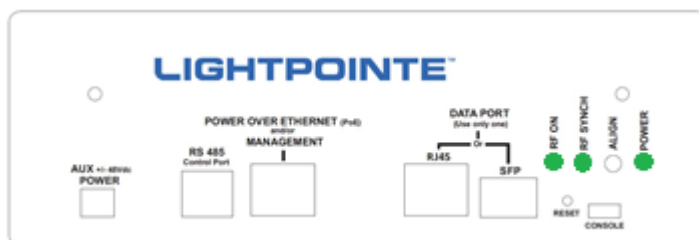

Figure 5-9: Default User Panel status after successful alignment
When aligning a 60 GHz radio with a narrow beam directional antenna pattern, it is important to understand that besides the “antenna main lobe” that contains most of the energy, there are also “antenna side lobes”. A “perfect” antenna would contain all energy in the main lobe but this is physically impossible. Although these side lobes contain far less energy - in the case of a good directional 60 GHz antenna the power of the 1st side lobe is typically more than 20 dB lower when compared to the main lobe’s peak power - one can “see” the 1st side lobe during the alignment process. This is mainly because in a 60 GHz antenna the main lobe and the 1st antenna side lobe are separated by an angle of just 2-3 degrees. This small value for the angular separation is actually close to the radiation angle of the main lobe itself. When installing a millimeter wave radio transmission system it is important to keep in mind that the antenna main lobe and the 1st antenna side lobe point in virtually the same direction. Aligning the system on a side lobe instead of aligning it on the main lobe will negatively impact performance of the system. For illustrative purposes Fig. 5-9 shows a typical antenna Radiation Pattern Envelope (RPE) diagram of a Cassegrain antenna.
14. When looking at the user panel (see Fig. 5-9) the following LEDs should be on: